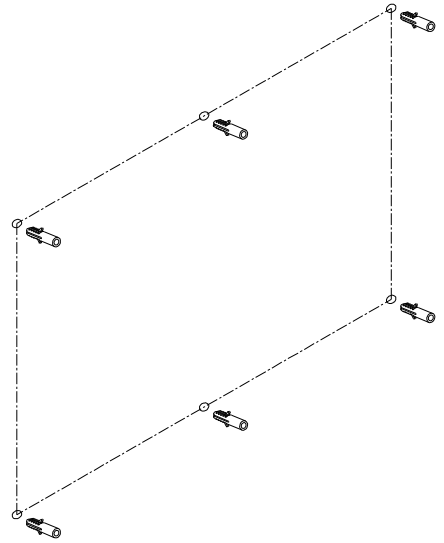

Fig. 3
- Take away the bracket and then drill 6/8/10pcs  $\Phi 8$  holes on the wall. Put the plastic wall plug into the hole. (Fig. 3) If the wall is solid wood, it is no needed to drill the holes on the wood and no needed of the plastic wall plug.